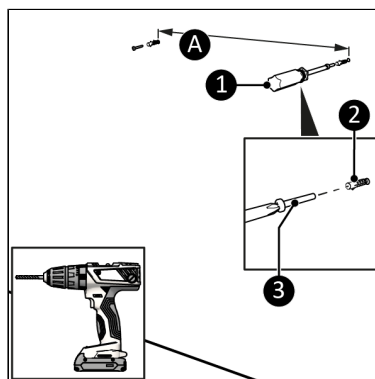

Figure 26.
8. Drill two holes with approximately 160 mm between the holes (Figure 26, pos. A). And with a minimal distance from the floor of:
9. Place wall plugs (Figure 26, pos. 2).
10. Screw two large screws (Figure 26, pos. 3) to the wall using a Phillips screwdriver (Figure 26, pos. 1). Let the screws stick out a few millimeters from the wall.